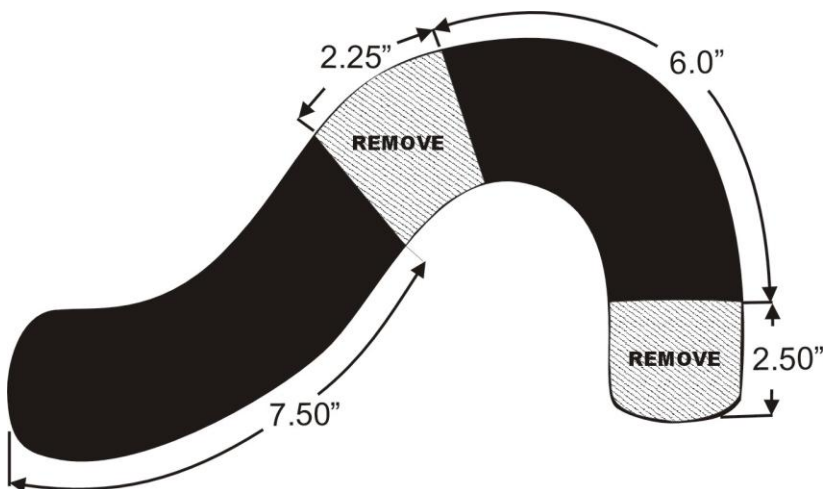

Figure 3.1
- ☐ Remove OEM hose clamps from OEM lower radiator hose. Cut 2 sections out of hose as seen in Figure 3.1.